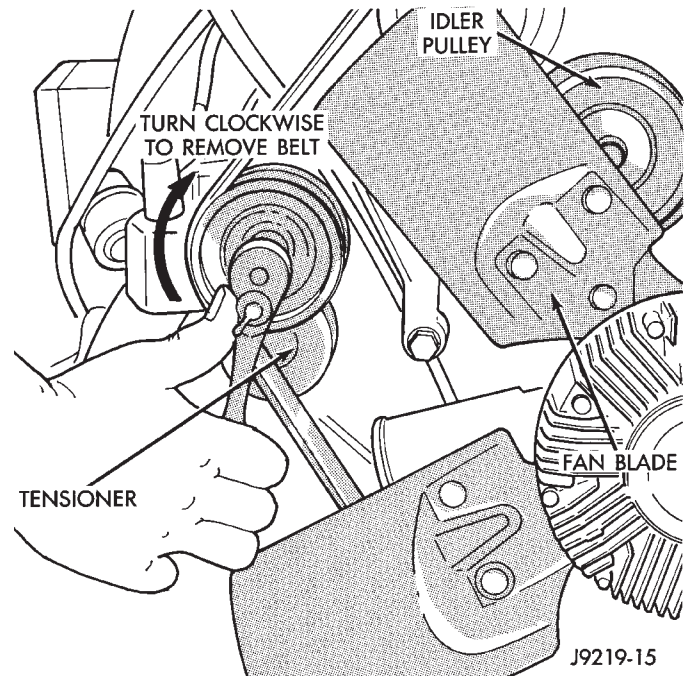

Fig. 32 Belt Tensioner Assembly—5.2L/5.9L Engines
(6) Remove fan shroud and fan blade/viscous fan drive assembly from vehicle as a complete unit.
(7) After removing fan blade/viscous fan drive assembly, **do not** place thermal viscous fan drive in horizontal position. If stored horizontally, silicone fluid in viscous fan drive could drain into its bearing assembly and contaminate lubricant.
(9) Remove accessory drive belt as follows: The drive belt is equipped with a spring loaded automatic belt tensioner (Fig. 32). Relax tension from belt by rotating tensioner clockwise (as viewed from front) (Fig. 32). When all belt tension has been relaxed, remove accessory drive belt.
- (10) Relax tension from belt tensioner (Fig. 32). Install drive belt.